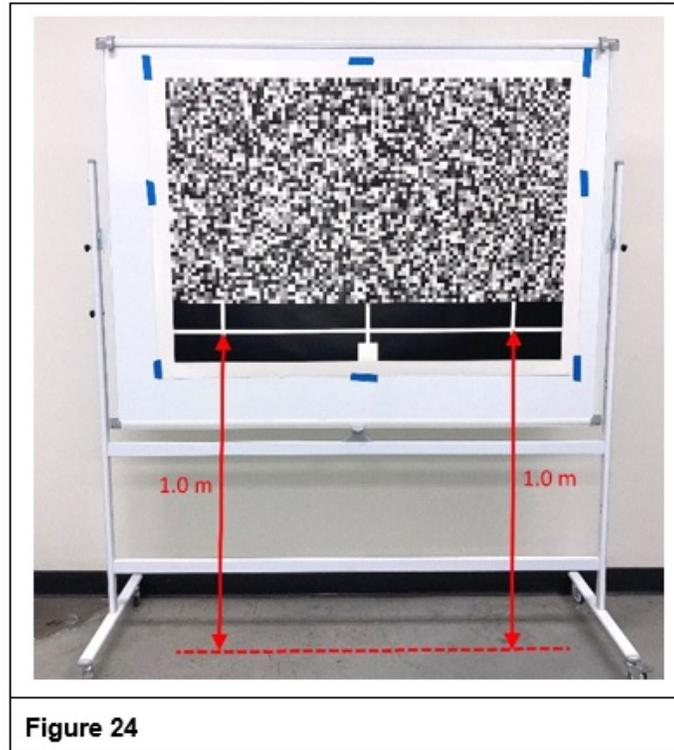

Figure 24
33. If not already completed per the special tool instructions, attach the Stereo Camera Target (Special Tool GE-53206) to the Target Stand (Special Tool GE-53291). Refer to Figure 24 and adjust the height of the target so that both ends of the target position line are 1,000mm (1m) above the floor.